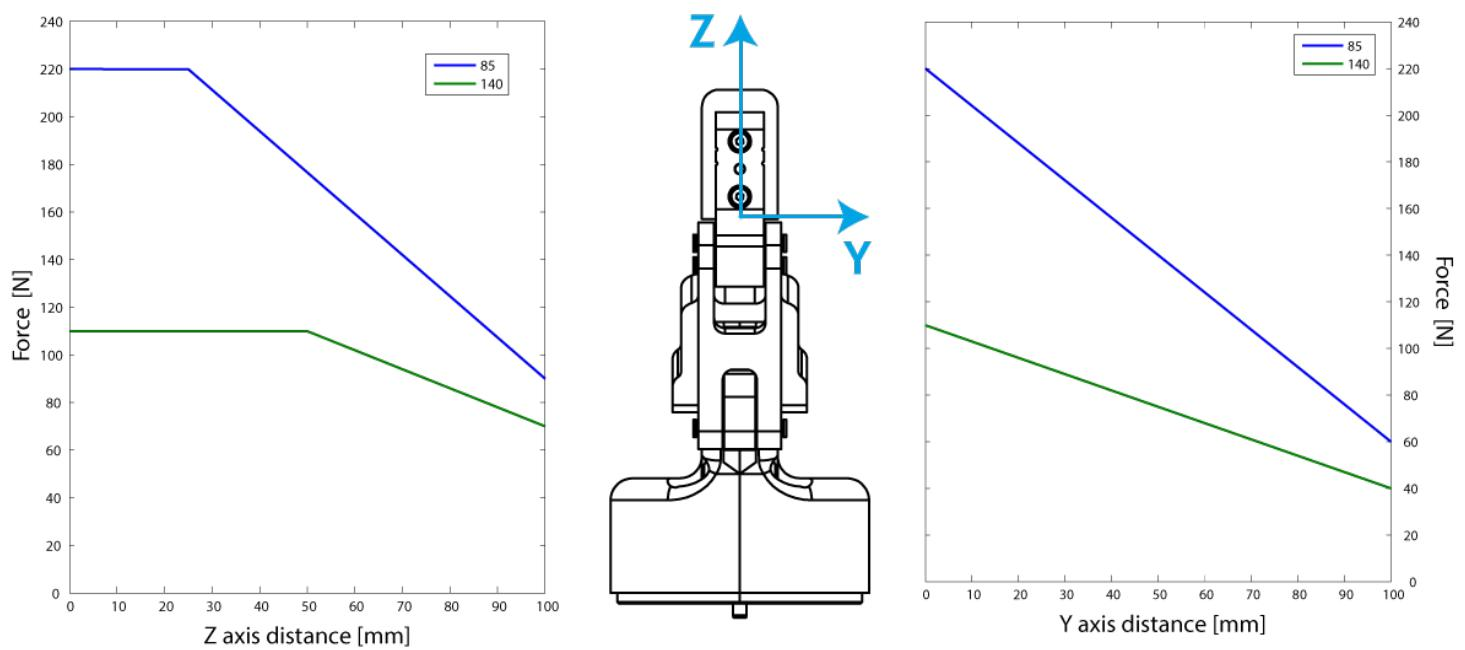

Figure 6.2.2 : Grip force in the Y and Z axis for the 2-Finger 85 and 2-Finger 140.
- Fingertip must not exceed 100 mm in width from the fingertip's base (refer to Y axis from Figure 6.2.2).
The user of the Gripper must always ensure that the result of the forces against the finger is always lower than the maximum holding Force as seen in figure 6.2.2.
- d is the distance between the bottom of the finger pads and the equilibrium line as seen on the Z axis in figure 6.2.2.
* Moments in x and y are calculated from the base of the finger tips as shown in figure 6.2.2